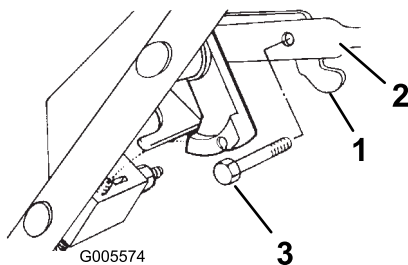

Figure 6
9. Secure the control lever to the control bar with a bolt and a locknut (Figure 6).